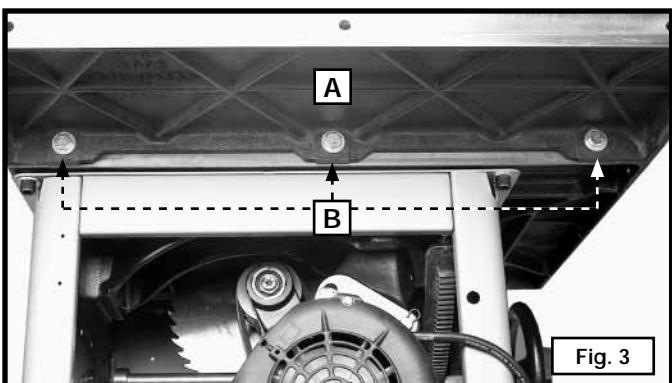
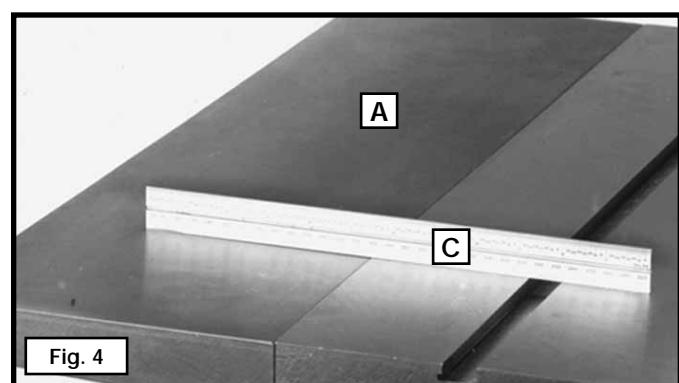

Fig. 3
Fig. 4
Attach the extension wing (A) Fig. 3 to the left side of the saw table using the three 7/16"-20 x 1-1/4" hex-head screws (B) and 7/16" flat washers.
**NOTE:** Use a straight edge (C) Fig. 4 to level the extension wing (A) with the saw table before tightening the screws (B) Fig. 3.